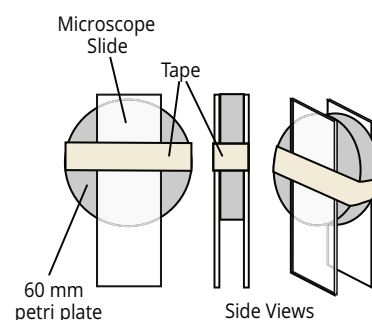

Figure 7: Trough former.
1. Tape one microscope slide to the bottom of the petri plate (see Figure 7).